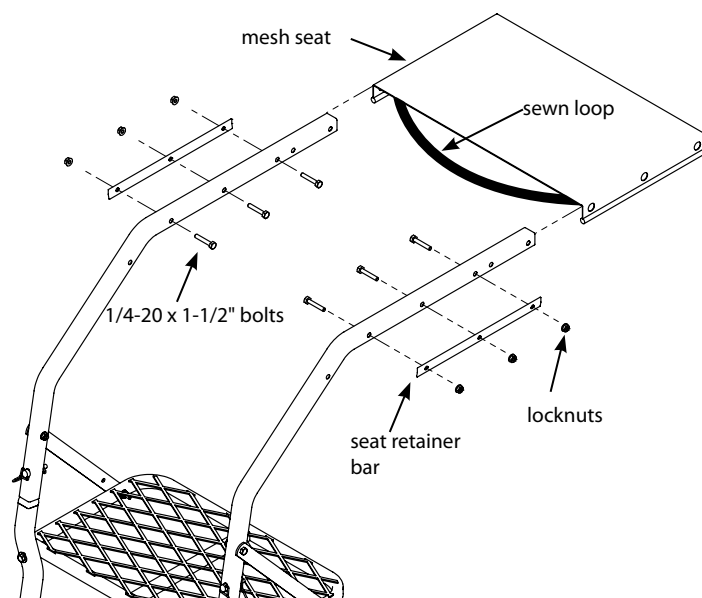
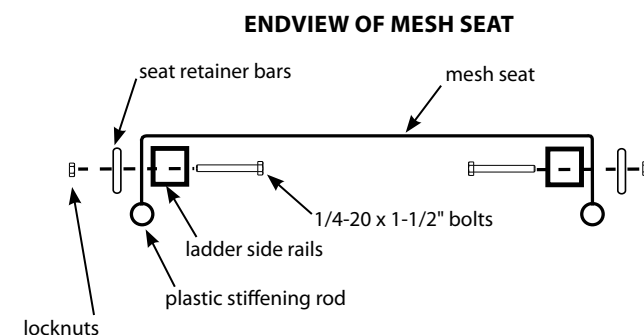

Figure 2
Figure 3
3. Slide the sewn loop of the seat (360003) over the ladder side rails. Attach the seat and the (2) seat retainer bars (410072) to the ladder side rails using (6) provided 1/4-20 x 1-1/2" bolts and locknuts. **SEE FIGURE 2.** The plastic stiffening rod located in the sewn sleeve on each side of the seat **MUST** be positioned below the seat retainer bar to act as a seat stop and prevent the seat from pulling out during use. All bolts **MUST** go through the seat retainer bars, the holes provided in the seat and the ladder side rails. **SEE FIGURE 3.**